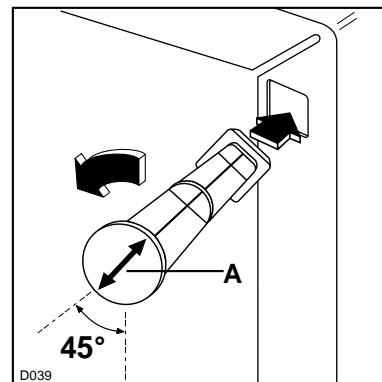

Fig. 2
Push-fit the spacers into the openings, making sure the arrow (A) is positioned as per Fig. 2 and then turn the spacers through 45° until they lock in (arrow «A» in a vertical position).